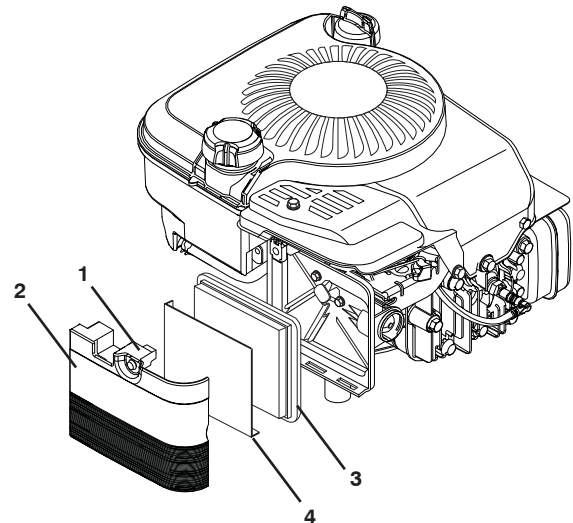

Figure 23
1. Loosen the fastener that holds the cover (Figure 23).